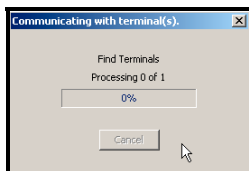

Figure 45: Software Communicating with Terminals
Step 11. To find terminals, click on the **Find Terminals** button to search for terminals (see **Figure 45**).